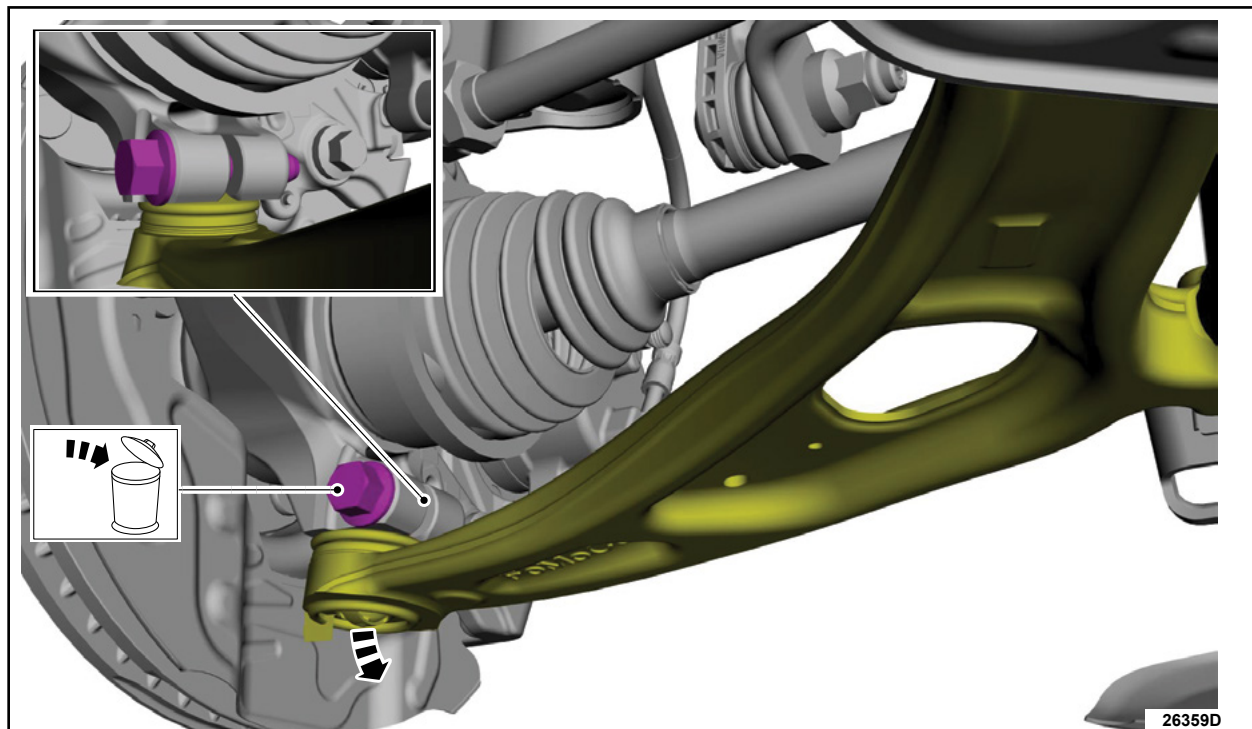

FIGURE 5
d. Remove and discard the ball joint pinch bolt on both sides. See Figure 5.
e. Install a *new* ball joint pinch bolt on both sides. See Figure 5.